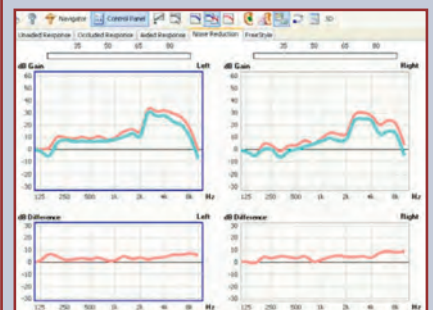

Figure 2. Bilateral noise reduction results, including difference curves, on the Aurical FreeFit.4
- 8) Capture the resulting curves. Most equipment will provide a start and end curve, showing the amount of noise reduction that occurred during the course of the test. Some will also show a difference curve to quantify the amount of reduction (Figure 2).